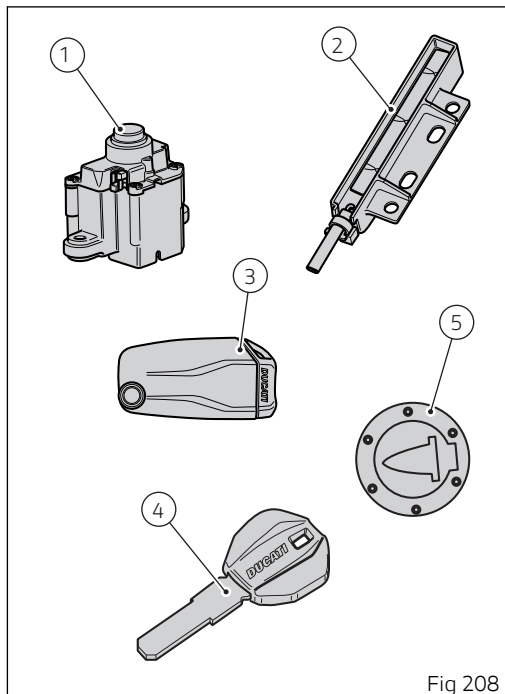

Fig 208
The "Hands free" unit (1, Fig 208) is located on tank front side and can be accessed by pulling up and removing protection cover (8).
Key-On can be performed by pressing button (6) on the handlebar and with the presence of the active key (3, Fig 208).
Key-Off can be performed by pressing the button (6) on the handlebar. It can also be performed without the key (3, Fig 208) only if motorcycle speed is equal to zero.
Key-On can be performed by pressing button (7) on the Hands free unit (1, Fig 208) and with the presence of the active key (3, Fig 208).
Key-Off can be performed by pressing button (7) on the Hands free lock (1, Fig 208), also without the key (3, Fig 208).
Key-On can be performed by pressing the grey button (6) on the handlebar and with the presence of the passive key (4, Fig 208).
Key-Off can be performed by pressing the grey button (6) on the handlebar. It can also be performed without the key (4, Fig 208) only if motorcycle speed is equal to zero.
Key-On can be performed by pressing button (7) on the Hands free lock and with the presence of the passive key (4, Fig 208).
Key-Off can be performed by pressing button (7) on the Hands free lock (1, Fig 208), also without the key (4, Fig 208).
Key-On can be performed by pressing button (7) on the hands free lock (1, Fig 208) without the presence of the keys (3) and (4) and entering the pin code on the instrument panel.